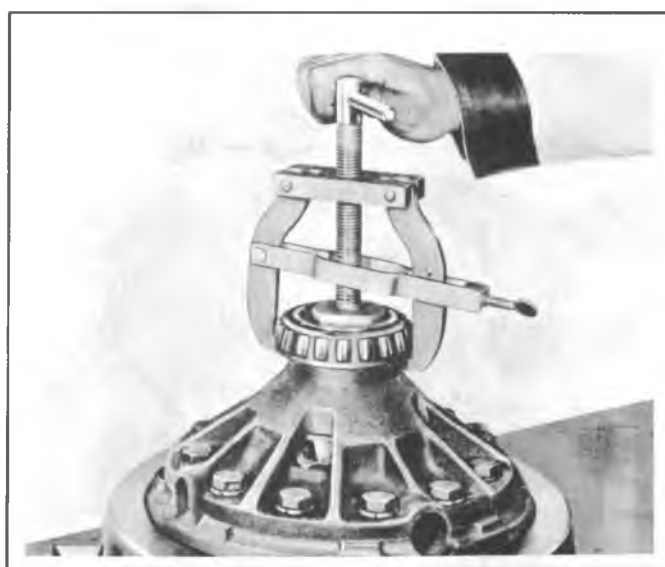

Fig. 4B2-10--Differential Bearing Removal
6. When installing the second bearing, support case on pilot plug as shown in figure 4B2-11 to prevent damage to first bearing installed.